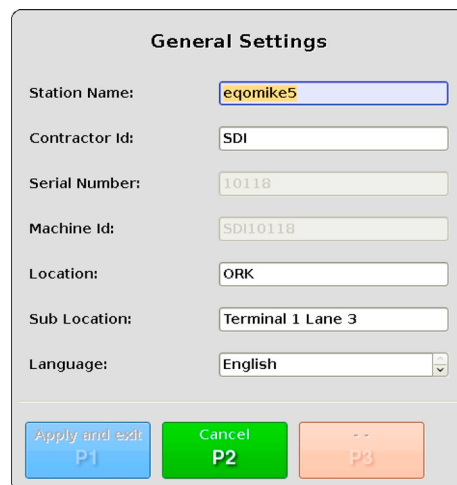

Fig. 35: “General Settings” dialog
- ▷ In the “Settings” menu navigate to the “General” menu item and select it by pressing **P1**. The “General Settings” dialog is displayed (see Fig. 35).